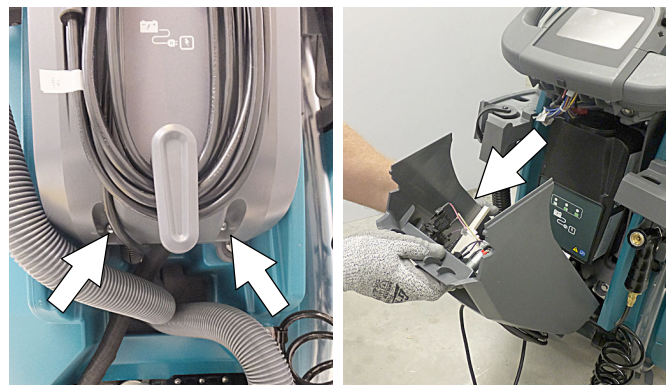

FIG. 112
3. Using a T25 star screwdriver, remove the two screws located at the bottom of the control console to access battery charger (Figure 112).